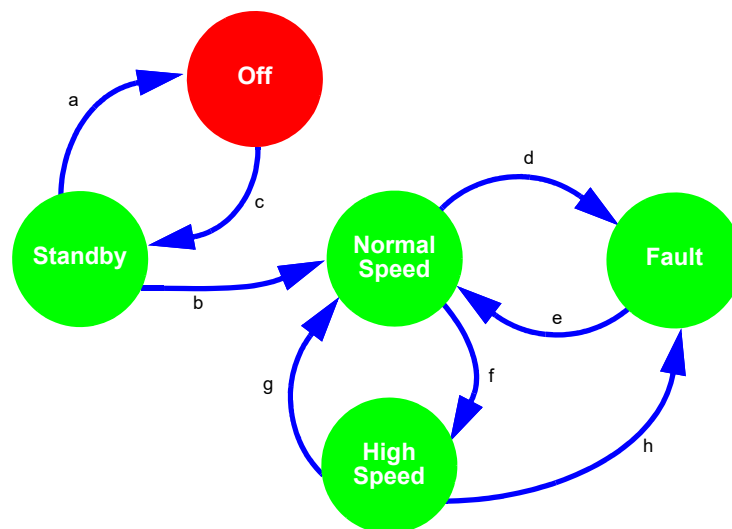

Figure 107: Asynchronous State Machine State Transitions
The Asynchronous State Machine macrocell is one of several macrocells in the Asynchronous State Machine Subsystem, and its specific role is to hold one active state at a time, and to facilitate user defined state transitions in a fast and power efficient manner. This macrocell is designed to allow the user to create state machines with between 2 to 12 states. When combined with the other macrocells in the ASM subsystem [four Dynamic Memory (DMx_x) macrocells, three Matrix Interface (MIx) macrocells, and one f(1) Computation Macrocell], the user has flexibility to define the available states, the available state transitions, and the input signals (a, b, c ...) that will cause transitions from one state to another state, as shown in the example in Figure 107.